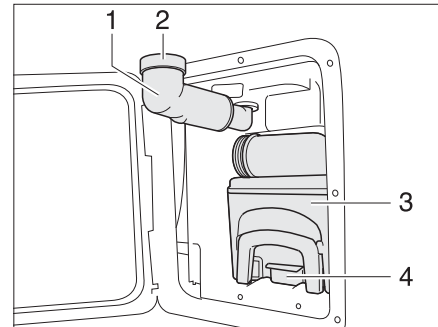

Fig. 151 Thetford cassette
- Swing the fresh water filler neck (Fig. 151,1) towards the outside.
- Remove the screw cap (Fig. 151,2).